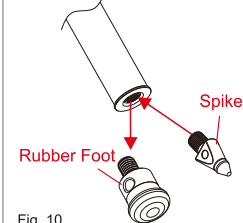

Fig. 10
7. Exchange feet (Spike / Rubber Feet). (Exchange as shown in Fig. 10)